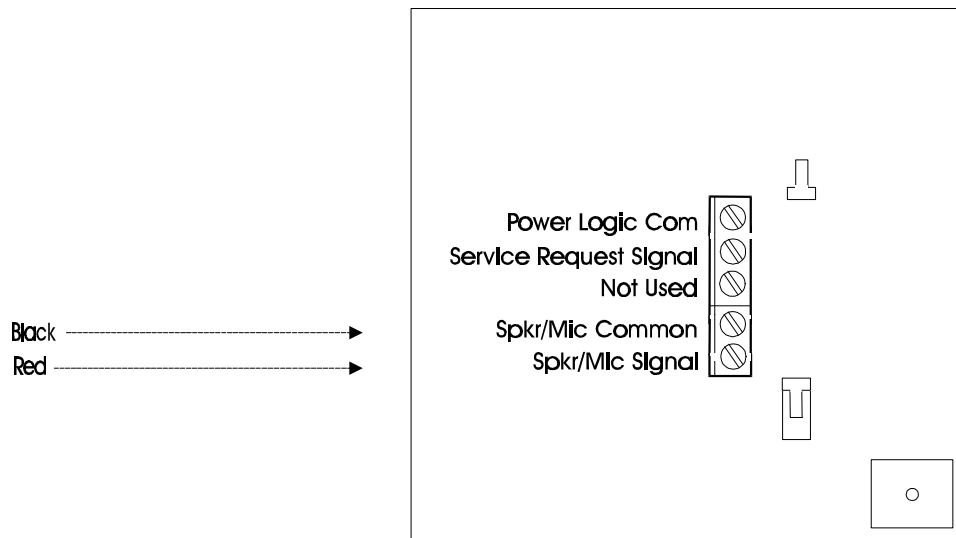

Figure 4
3. Connect red wire to the spkr/mic signal input of terminal block. Connect the black wire to the spkr/mic common position of terminal block. If shield and black wires are not connected together cut off shield at end of cable insulation. Do not connect to post or menu board (see figure 4 below).
2. Run small jumper wire between spkr/mic common and power logic common positions of terminal block (see figure 4).
3. Connect shield to service request signal position of terminal block (when using a PFS switch the shield and black wires cannot be connected together inside). Inside connection of shield will be to Service Request/Vehicle Detection position of three position terminal block on inside unit (see figure 4).